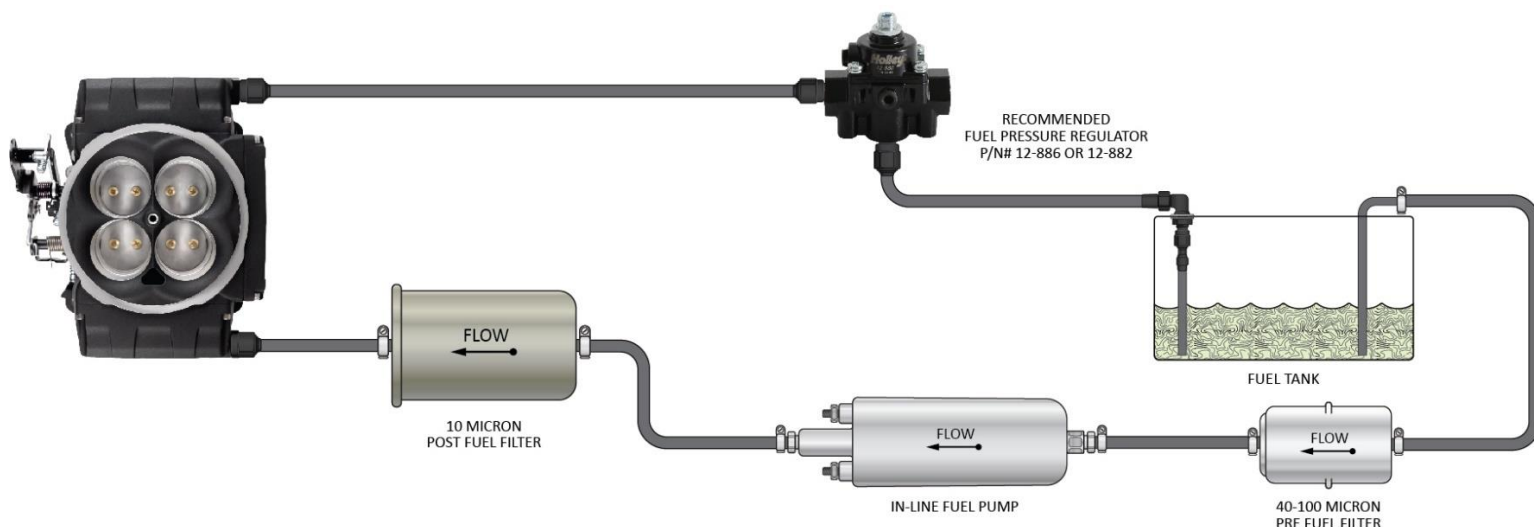

FIGURE 4
6. Connect fuel feed and return hose to the throttle body. The throttle body has a cast in fuel crossover, passing fuel from the front bowl to the rear bowl. Either fitting can be used as inlet or outlet. The inlet fuel should come from the pump through a filter and the outlet fuel should go to an external regulator set between 55-65 PSI. We recommend at least a 3/8" feed line and 3/8" return line. See **Figure 4**